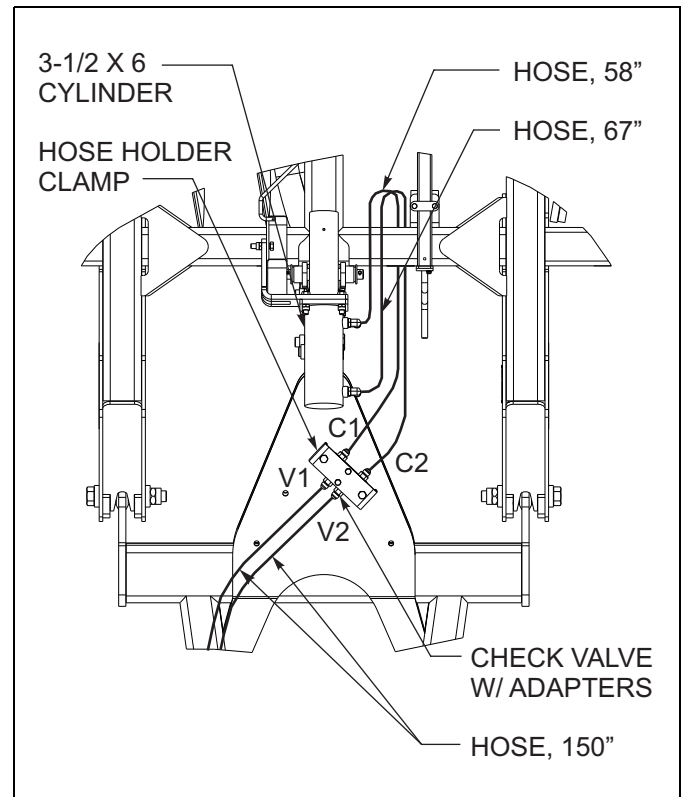

Figure 3-4: Check Valve Placement
15. Install check valve to hose clamp holder on hitch using 3/8-16 x 2 hex head cap screws and hex lock nuts. Note that ports C1/C2 go to the 3-1/2 x 6 cylinder and ports V1/V2 go to the tractor (**See Figure 3-4.**)
17. Attach (2) 150" hoses from the check valve to the tractor.